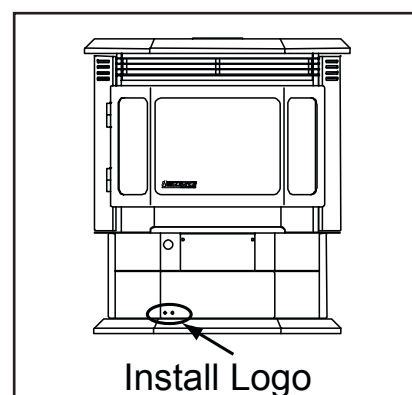

Figure 22.4
3. Install the logo on the lower left side of the center panel by pressing the 2 studs into the pre-drilled holes. See **Figure 22.4**.